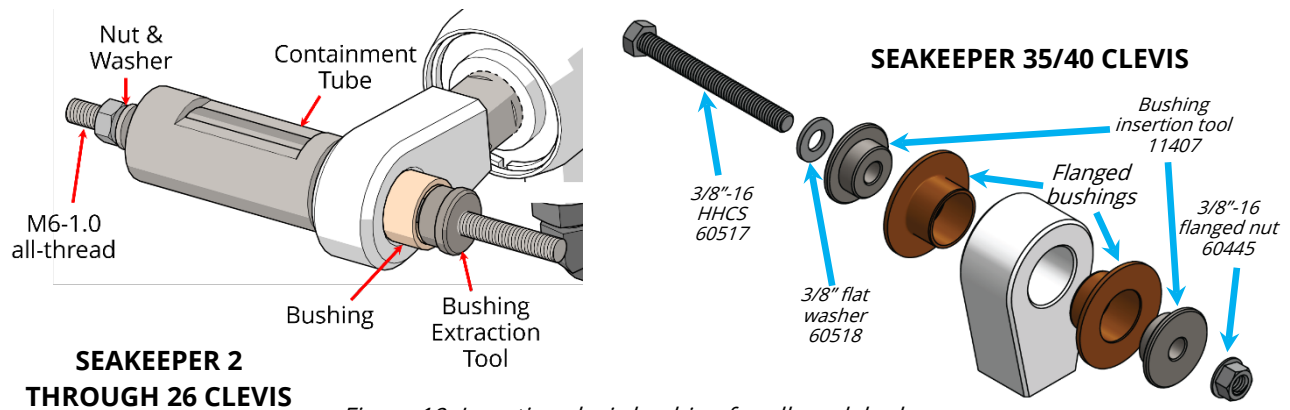

Figure 19: Inserting clevis bushing for all models shown
- d. Using threaded puller tool only, **INSTALL** clevis bushings per figure 19.